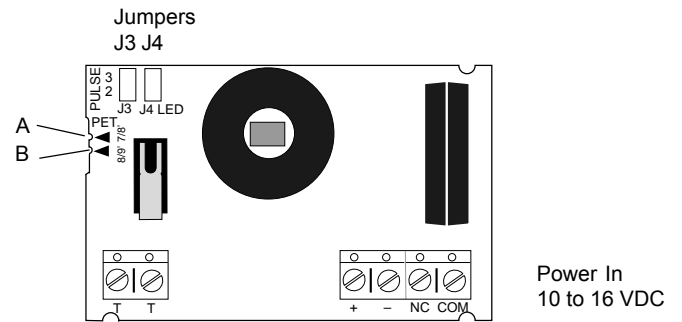

Figure 4 . Circuit Board
5. Strip back the outer jacket and individual wires of the cable and connect the conductors to the proper terminals (see Figure 4). The alarm contacts are not polarity sensitive.
The factory setting of the detector is for mounting heights of 7 to 8 feet (2.1 to 2.4m). For this setting, the locking tab on the back housing is in the notch by the 7-8' arrow on the circuit board (position A in Figure 4).
For proper operation at mounting heights above 8 feet (2.4m), the locking tab must be in the notch by the 8-9' arrow (position B in Figure 4).